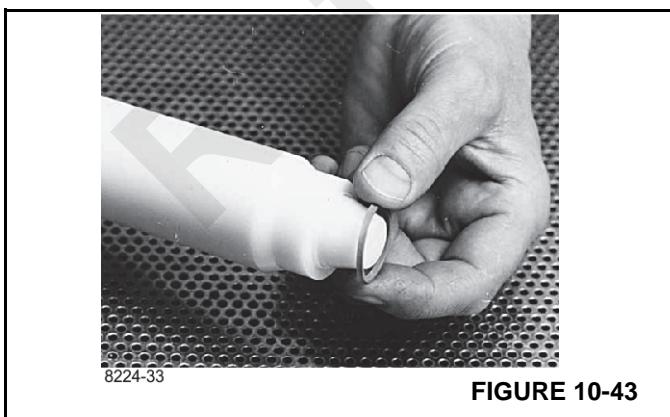

FIGURE 10-43
- 12. Lubricate the lip seal with hydraulic oil and place it on the assembly tool (Figure 10-43).